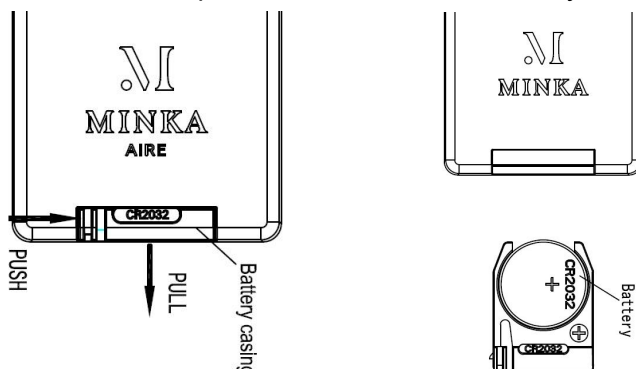

FIG. 4
1. Use small tool to push the left side of the battery casing and pull it out. Remove the old battery. (FIG. 4)